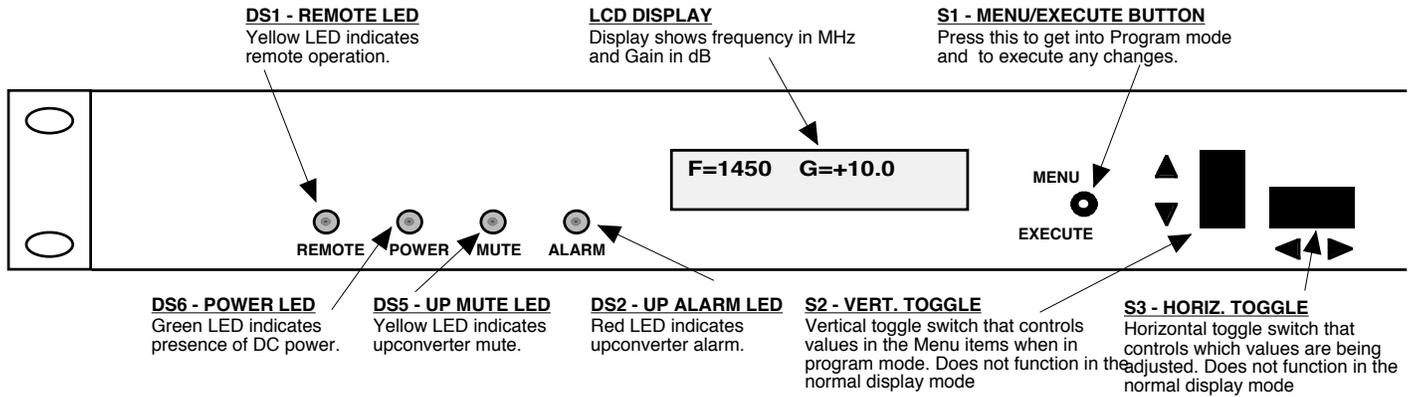

FIGURE 2.2 2015-03-01 Front Panel Controls and Indicators
7. Be sure DS6 (green, DC Power) is on and DS2 (red, Alarm) is off (Figure 2.2).
Alarm indications appear on the LEDs (see figure 2.2).